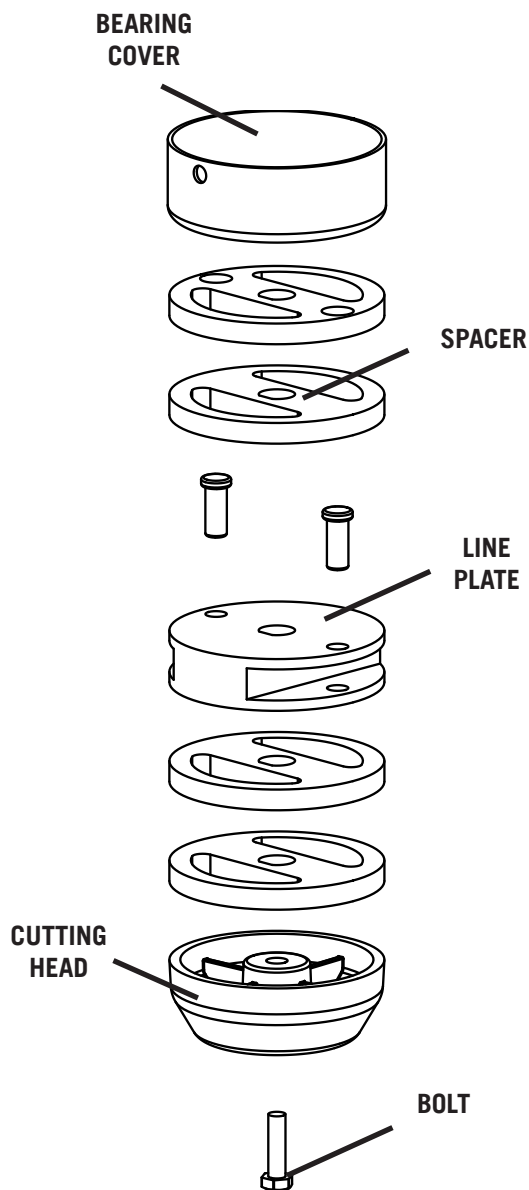

Figure 13
Assemble components in the order shown (see figure 13.)
1. Place the spacer and bearing cover (with the lip facing up) onto the shaft (Figure 13).